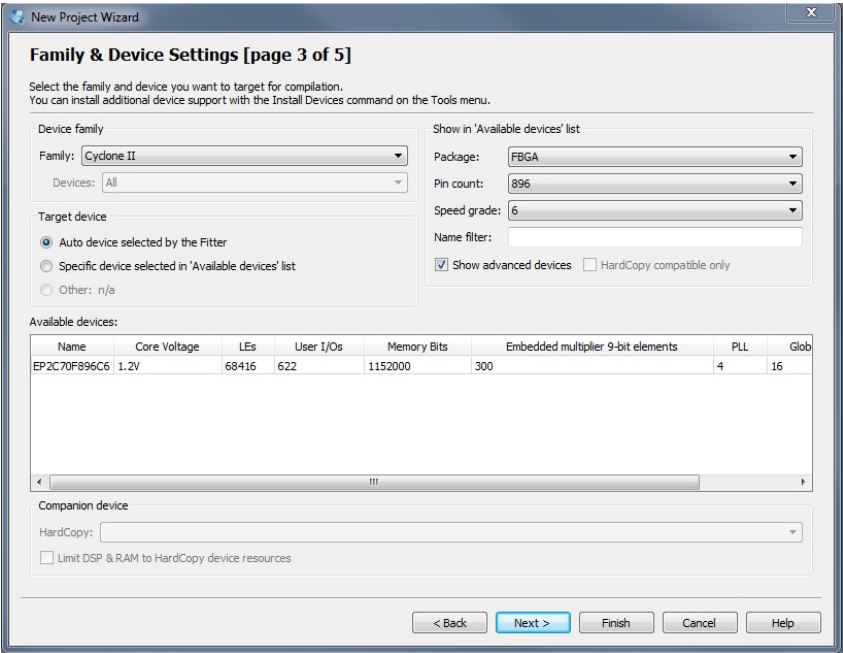

Figure 3:
5. For page 3 of 5, (Figure 3), select the correct FPGA model: Cyclone II EP2C70F896C6 as the target chip. Press Next.